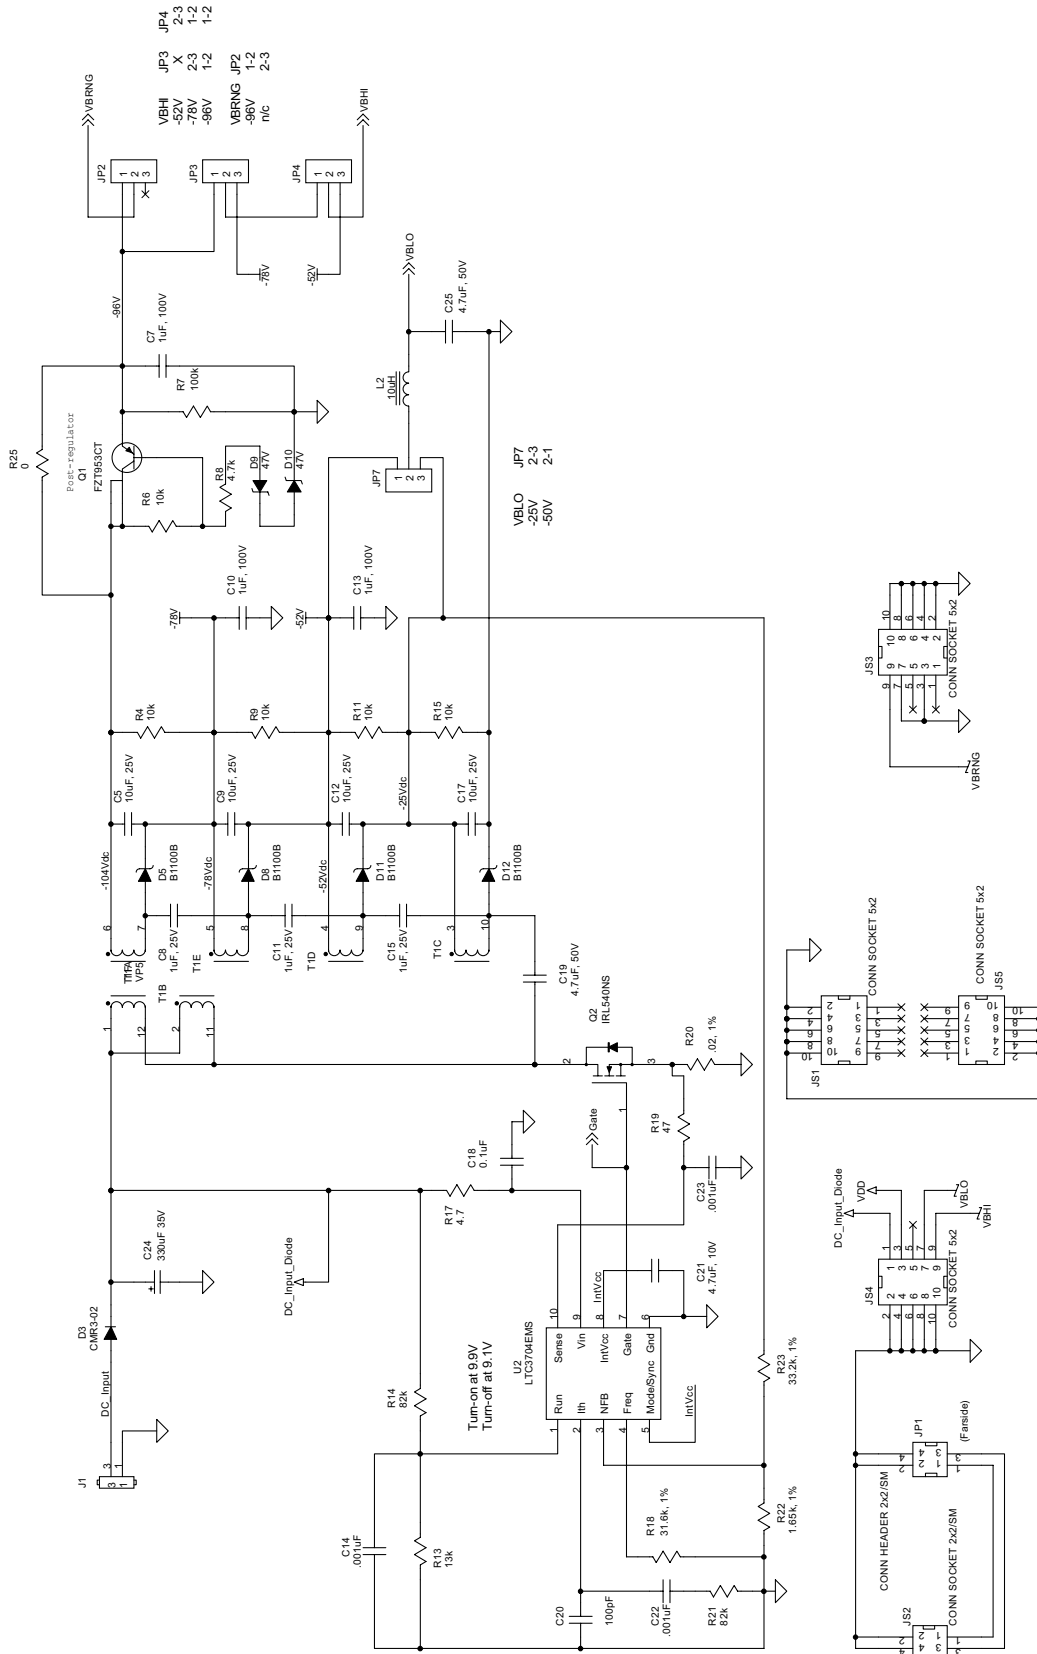

Figure 3. High-Voltage Negative Battery Supply
The schematic for this power circuit is illustrated in Figure 3 on page 4. The LTC3704 dc-dc controller IC is used to drive an external MOSFET and a multi-tap transformer to create four equal high-voltage negative outputs, VNEG (See Table 2), from the dc input supply. Only one output is regulated via close-loop feedback. The other three outputs are cross-regulated to the first output via the transformer ratio. The LTC3704's negative feedback input eliminates inverting circuitry when creating negative outputs from a positive input. The six-winding 1:1 ratio transformer is configured in a manner that minimizes the need for multiple high-voltage output filter capacitors.
- Updated Figures 3, 4, and 5.